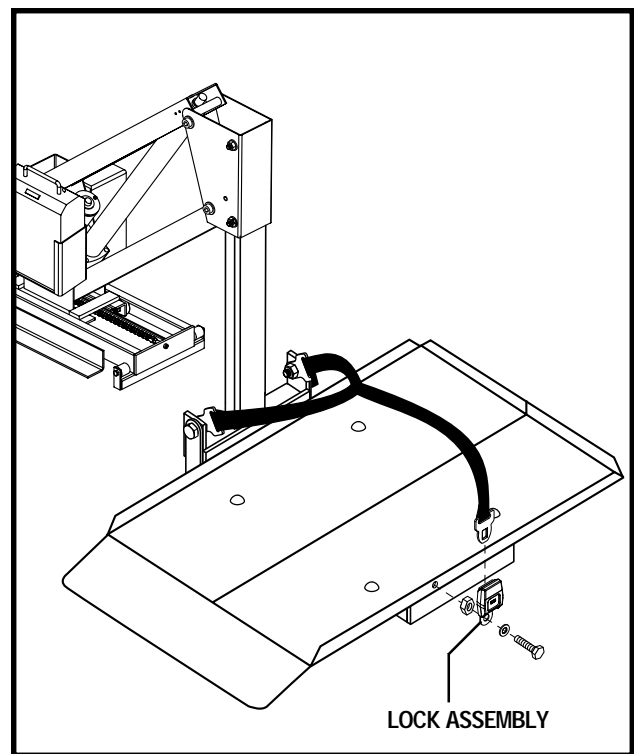

Figure 5. Y-Strap Installation
14. Drape the Y-strap over the platform and secure the lock assembly to the lift platform. See figure 5.